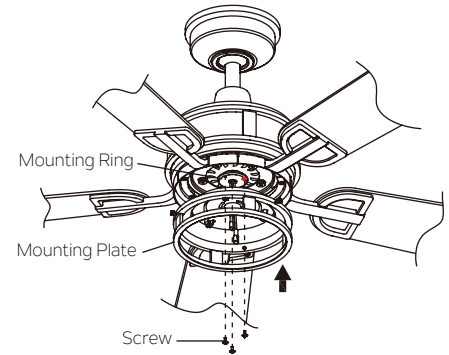

Fig. 21
Step 1. You will find one dot label on the mounting ring. Remove the 3 screws preinstalled on mounting ring and keep them for reuse later. Align the dot labels on the mounting plate to the mounting ring. Attach the mounting plate to the mounting ring with three screws removed previously. Please adjust the mounting plate if necessary, to line up the rim both on the motor body and mounting plate. Tighten the 3 screws securely.(Fig. 21)